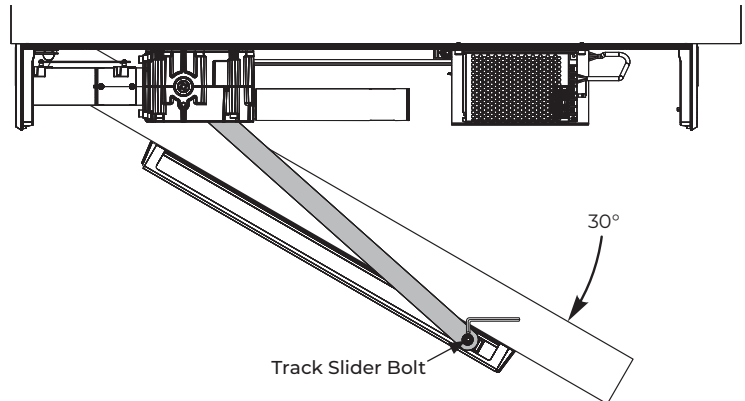

Fig. 16
3. Open door approximately 30 degrees and attach arm to slider in track. Use hex wrench to tighten slider bolt counter clockwise until slide is tight in arm. (Fig. 16)